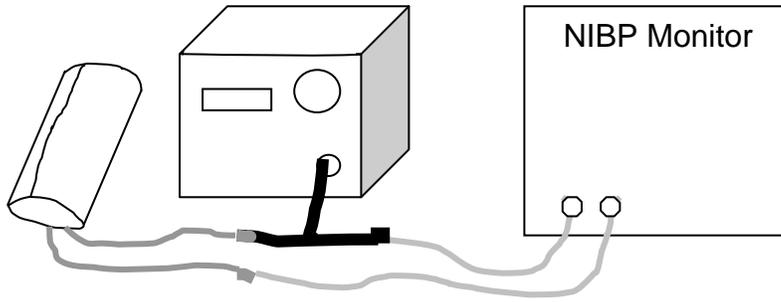

Fig. 1
5. **For dynamic NIBP testing,** connect the SimCube simulator in line with the monitor's cuff and hose as shown in Fig. 1. Different monitors will require different adapters. A variety of adapters are available from Pronk Technologies Inc. and each SimCube system comes equipped with at least one adapter. In Neo mode use a neo cuff. Wrap cuff snugly around itself and place in area safe from accidental motion. Using a SimCube Cuff Jacket can improve reading capture and consistency. To use Cuff Jacket, wrap cuff as above and insert into the desired sleeve volume. Generally the smaller volume is best for most monitors.